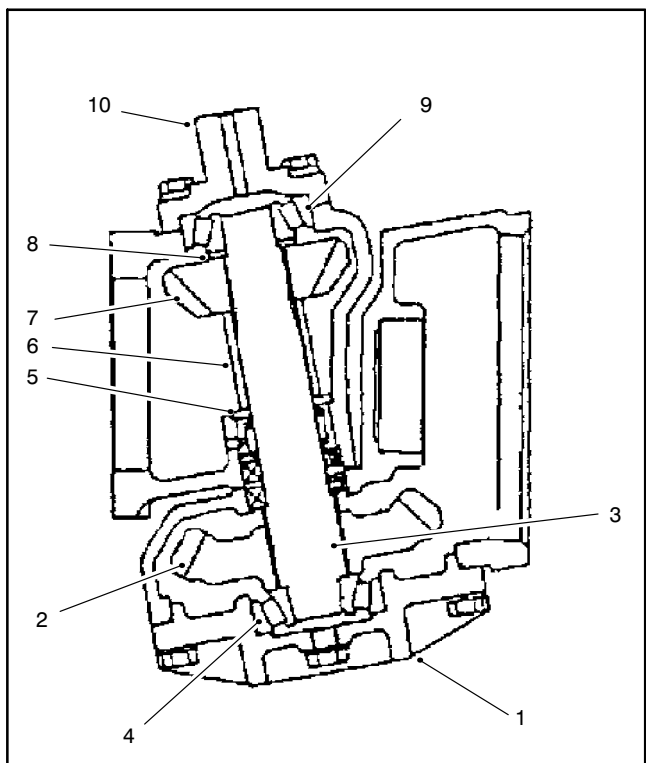

Figure 18
2. Install the lower bevel gear, and bevel gear shaft in the axle case cover. Coat a new O-ring with grease and install the axle case cover (Fig. 18). Tighten cover screws to 17 to 20 ft-lbs. (23 to 27 Nm).
3. Slide the bevel gear case over the bevel gear shaft and install the thrust washer, spacer, bevel gear, and collar. Make sure the bevel gear shaft is completely seated in the upper and lower bearings (Fig. 18).